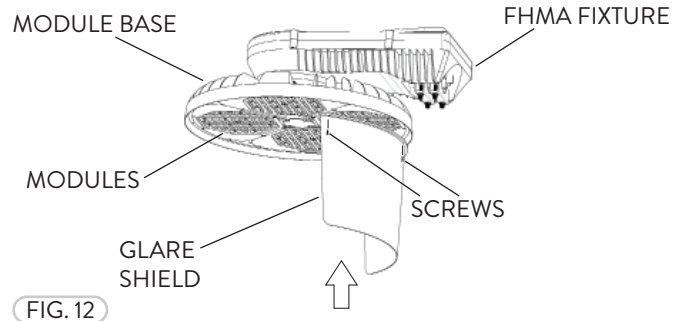

FIG. 12
- 1 The Optional Glare Shield can help to limit light trespass. Align the Glare Shield to the holes around the inside of the Module Base and fasten with the Screws (Fig. 12).